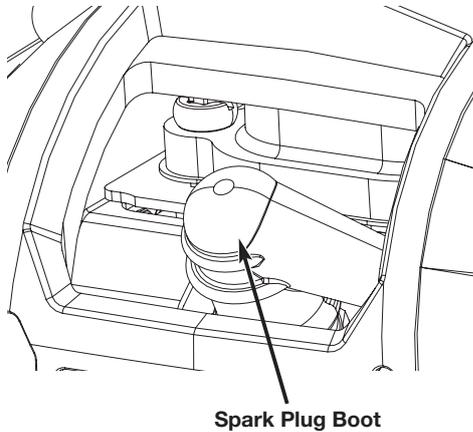

Fig. 14
2. Grasp the spark plug boot firmly and pull it from the spark plug (Fig. 14).